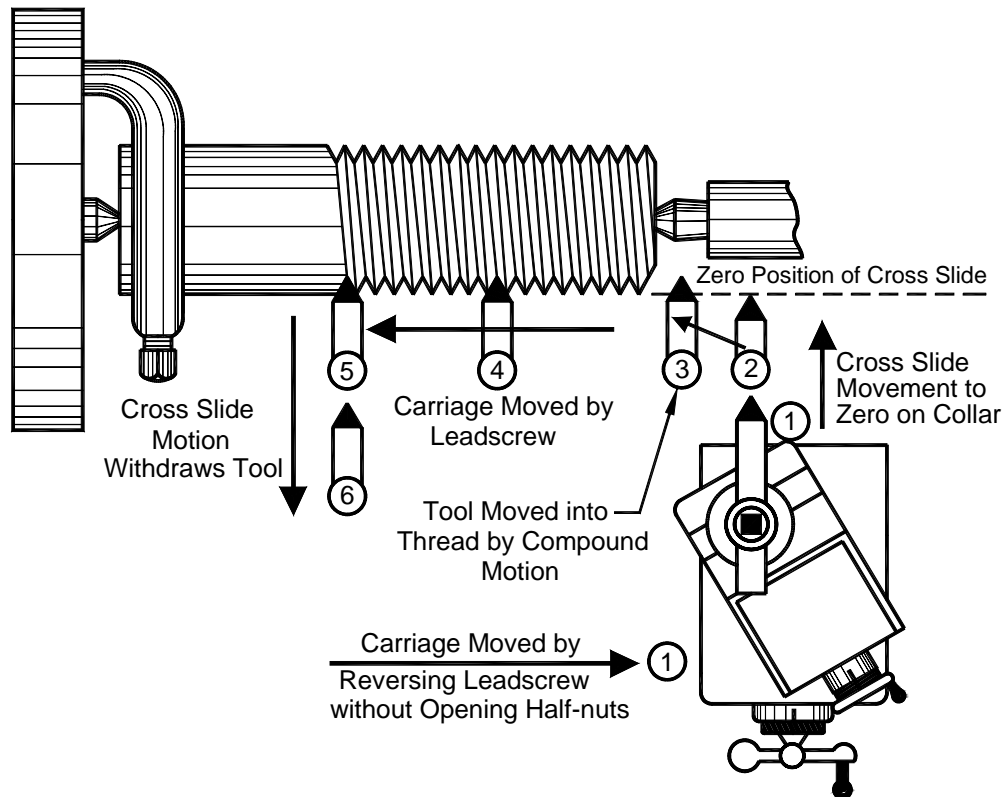

Figure 7-144. Metric thread cutting sequence.
9. Bring the thread to the required depth with additional passes. Do not open the half-nuts until the thread is completed and has been checked because you will lose the ability to pick up the thread again. The metric thread cutting sequence is shown in Figure 7-144.